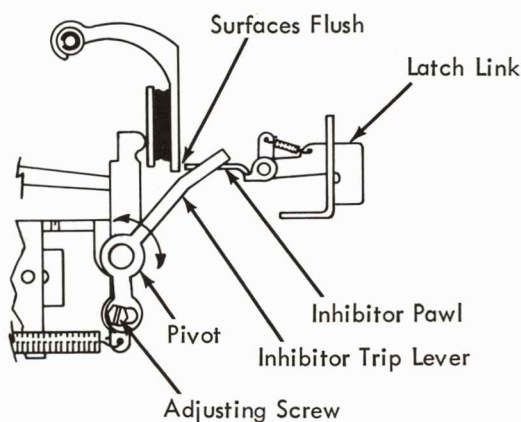

FIGURE 22. Inhibitor
- a. Adjust the inhibitor trip lever (Fig. 22) so that the bottom edge of the inhibitor pawl is flush with the bottom edge of the cycle clutch latch (Fig. 26) with all parts at rest.